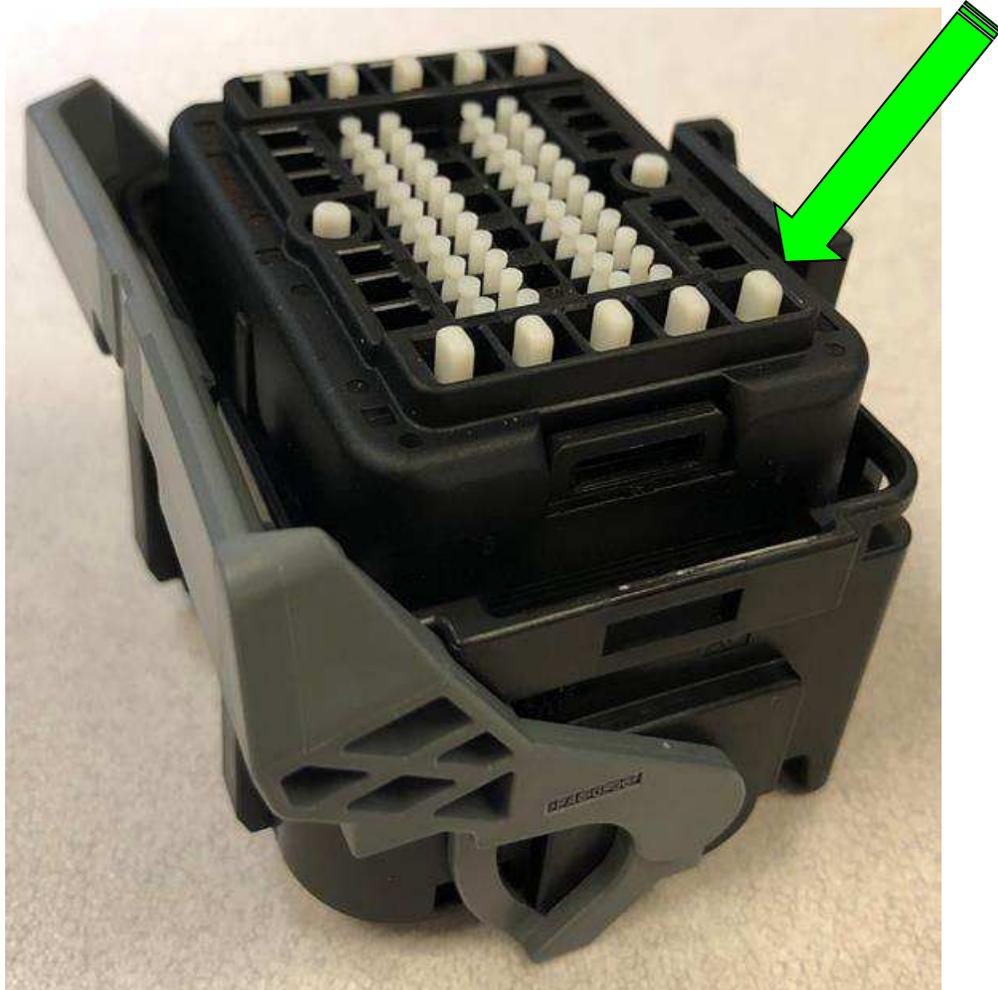

Figure 41
2. Pull back gently on the seal plug by utilizing the finger grip to ensure the seal plug is securely locked behind the connector plastic terminal latch. In fully seated position, the seal plugs stick out ~1mm above top surface of mat seal cover. See Figure 41 for visual of seal plug in fully seated position.